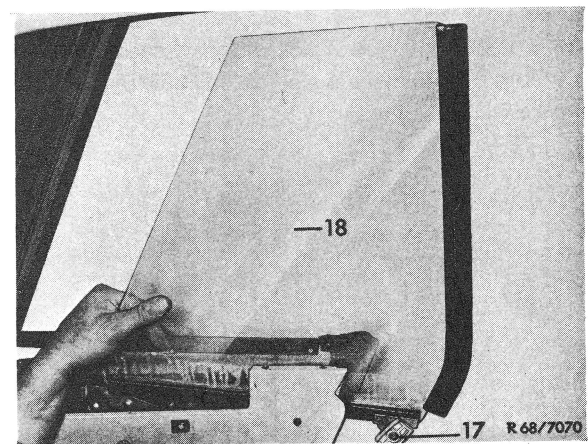

Fig. 4
- 7 Loosen screw (13) of reel (14) from safety belt and turn reel aside.
- 8 Remove both screws (15) of window guide rail.
- 10 Lift guide shoe (17) out of window guide rail and remove pane (18) in forward direction (Fig. 4).
**11** For installation proceed vice versa. Guide shoe should run in window guide rail in such a manner that spring end of guide shoe runs at close bend of guide rail (Fig. 4).